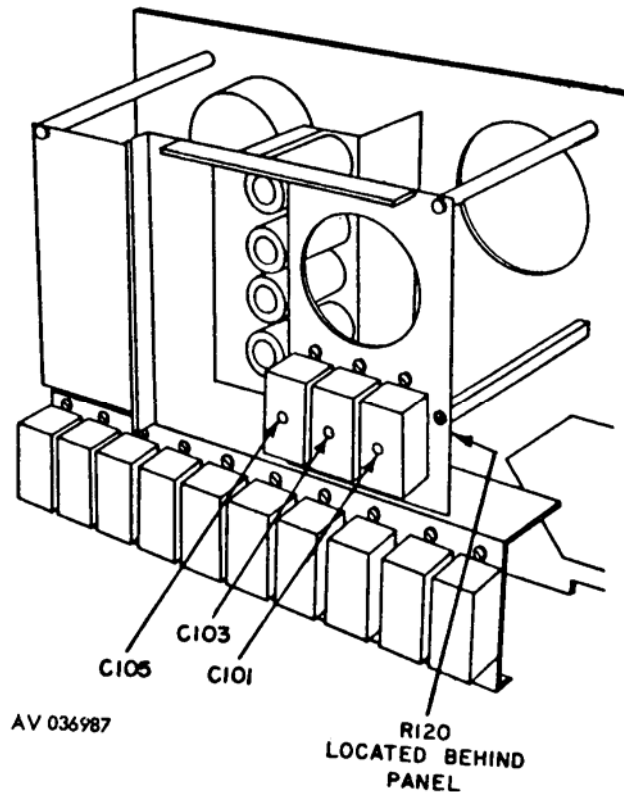

Figure 3. Consolidated Airborne Systems, Models TF20-1 and TF579 - adjustment locations.
- e. Set switches as listed in (1) through (3) below:
- (1) **FUNCTION SELECTOR** to **CAP IND-ZERO CAL.**
- (2) **CAP RES CHECK** to **CAP.**
- (3) **CAPACITANCE INDICATOR-RANGE SELECTOR** to **X1.**
- g. Set **CAPACITANCE INDICATOR-RANGE SELECTOR** switch back and forth through its four ranges. If meter does not indicate zero, adjust R120 (fig. 3) for minimum shift of pointer.
b. Adjustments. Adjust C101 (fig. 3) for a capacitance indication of 100 pF.